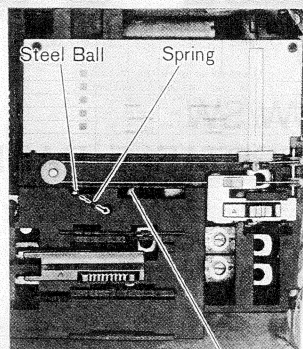

Fig. 5
1. Insert the spring and steel ball in the cabinet hole and insert the knob in the hole of band switch lever, as shown in fig. 5.